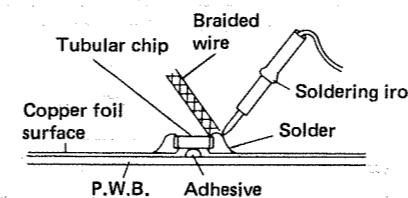

Figure 23-1
- Using a soldering iron, heat the solder at each terminal of the chip to get it absorbed into a braided wire applied thereon. See Fig. 23-1.